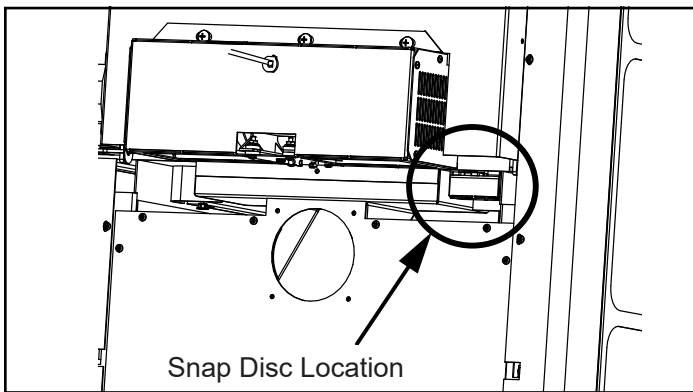
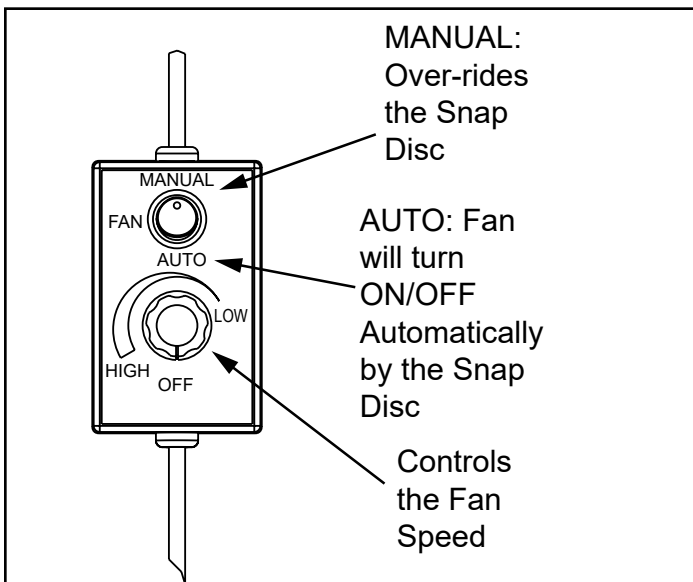

Figure 13.1
Figure 13.2
3. **Snap Disc Location:** If you find the blower coming on and off at undesirable temperatures, relocate the snap disc to another location in the designated zone on the back of the appliance (**Figure 13.1**). There is a manual over-ride switch to deactivate the snap disc, if necessary (**Figure 13.2**).